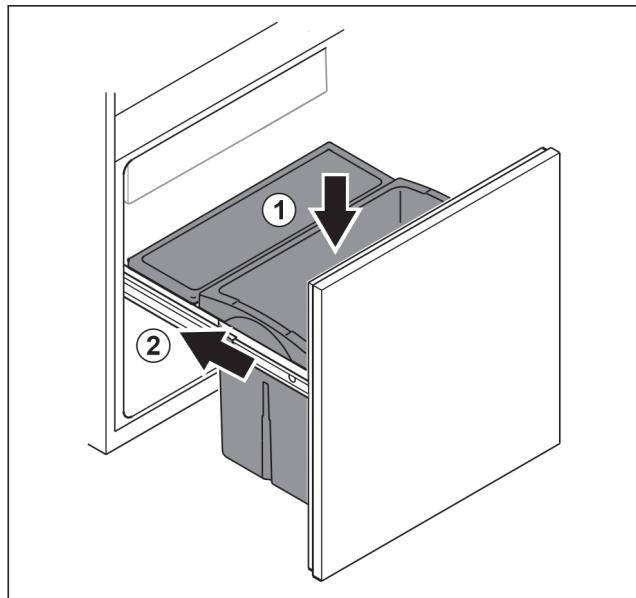

Fig. 104
- ▶ Insert drawer from above. *Fig. 104 (1)*
- ▶ Slide in pull-out unit. *Fig. 104 (2)*